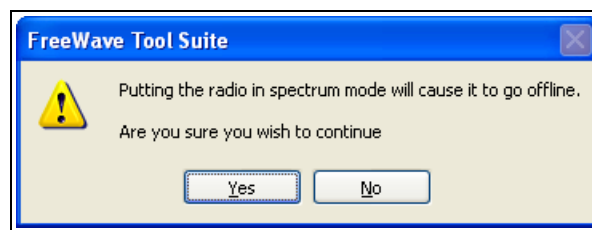

Figure 56: Confirm Offline Mode message
3. Click **Yes** at the prompt to place the device offline and run the analysis. Figure 56